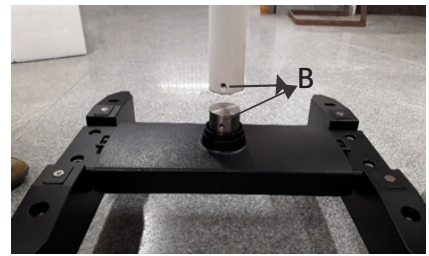

Fig 13
7.1 Open the microscope box. Remove (column) from the box. Engage this column onto the shaft by aligning 3 guide holes on column and shaft, shown as B in Fig 13.